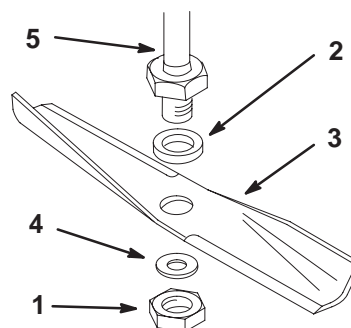

Figure 26
Note: Make sure the blade and hardware are install in the positions shown in Figure 26.
3. Remove the nut, washer (thick), blade and flat washer (Fig. 26). A block of wood may be wedged between the blade and the mower to lock the blade when you are removing the bolt.